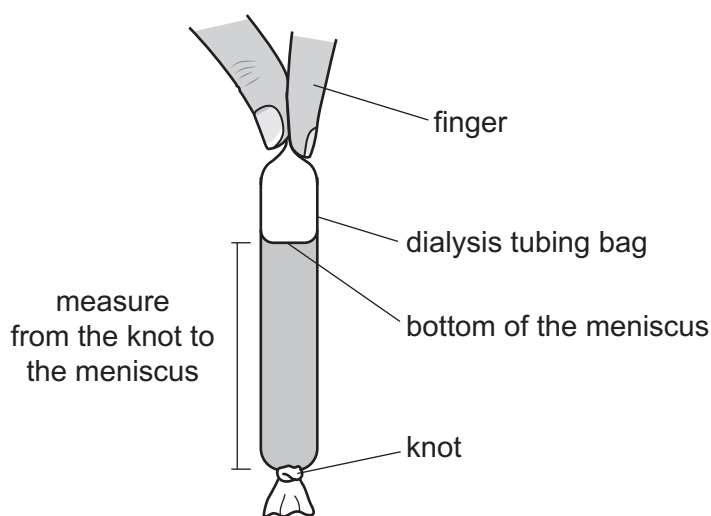

Fig. 1.1
Step 4 Hold the top of the dialysis tubing bag containing the sucrose solution as shown in Fig. 1.1. Use the ruler to measure the distance from the knot to the meniscus of the liquid in the bag.